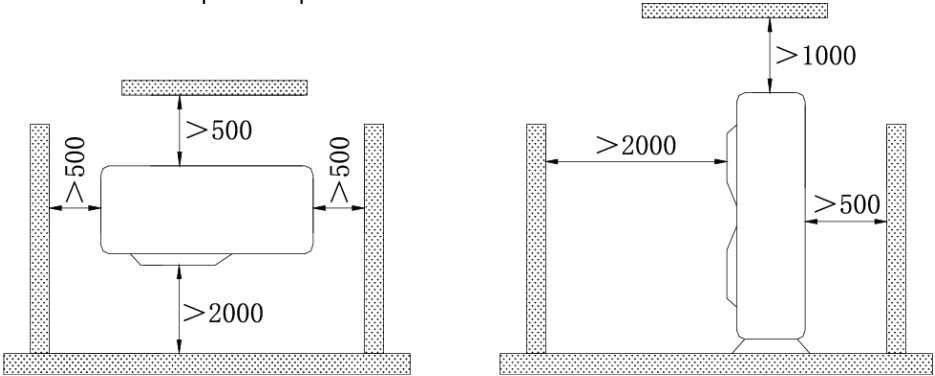

Fig.3
- 5) The installation space of the unit should be as required in Fig.3.